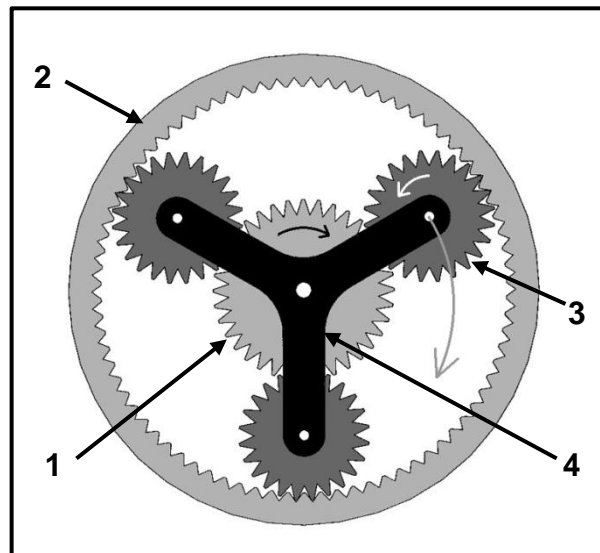

FIGURE 4.10
4.10 Identify the annulus shown in FIGURE 4.10 below.